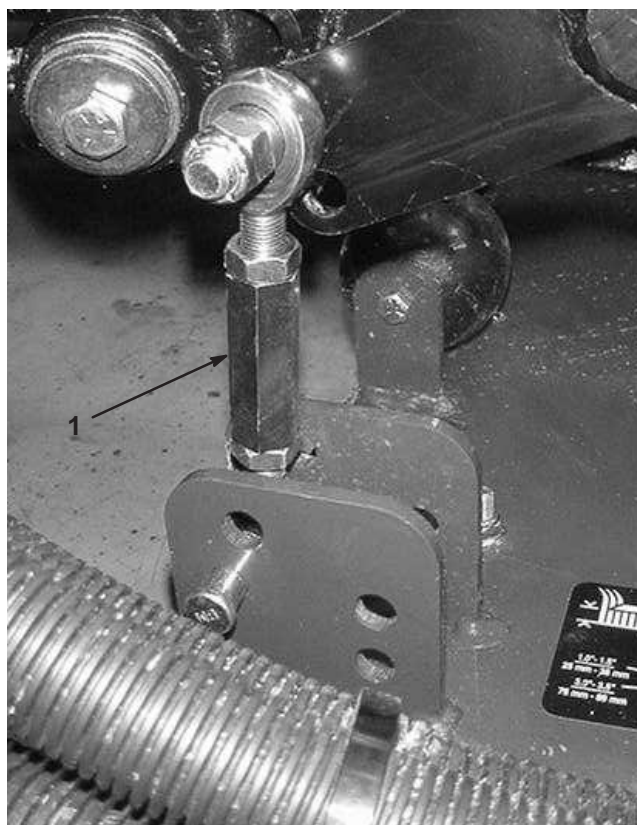
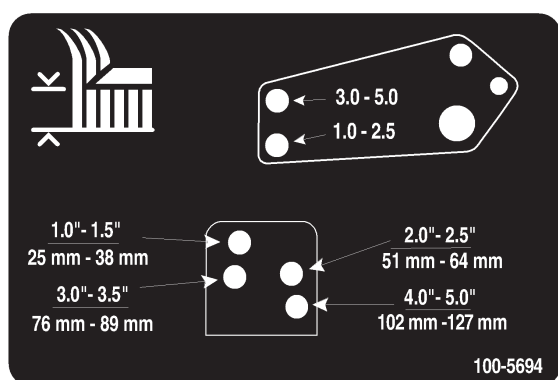

Figure 18
Figure 19
5. Remove the hairpin cotters and clevis pins securing the damper links to the cutting unit brackets (Fig. 18). Align the damper link holes with the selected height-of-cut bracket holes in the cutting unit frame (Fig. 19), insert the clevis pins, and install the hairpin cotters.